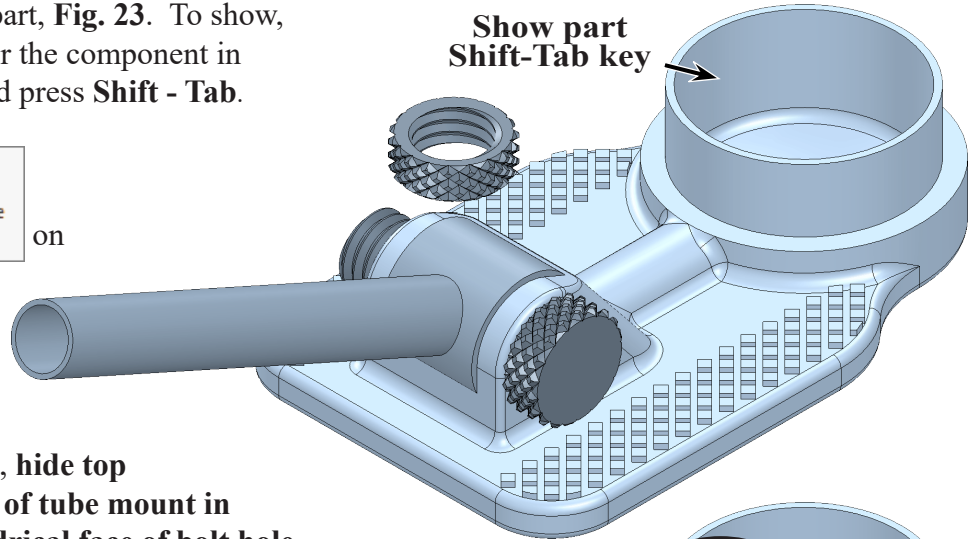

Fig. 23
Step 1. **Show Base**  part, Fig. 23. To show, move cursor over the component in graphics area and press **Shift - Tab**.